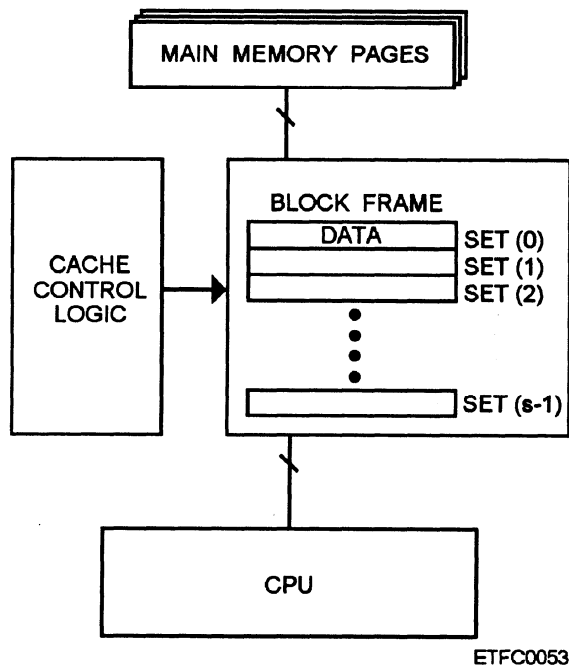

Figure 5-10.—Example of direct mapping used in cache memory.
- **Direct mapping** —Main memory locations can only be copied into one location in the cache. This is accomplished by dividing main memory into pages that correspond in size with the cache (fig. 5-10).